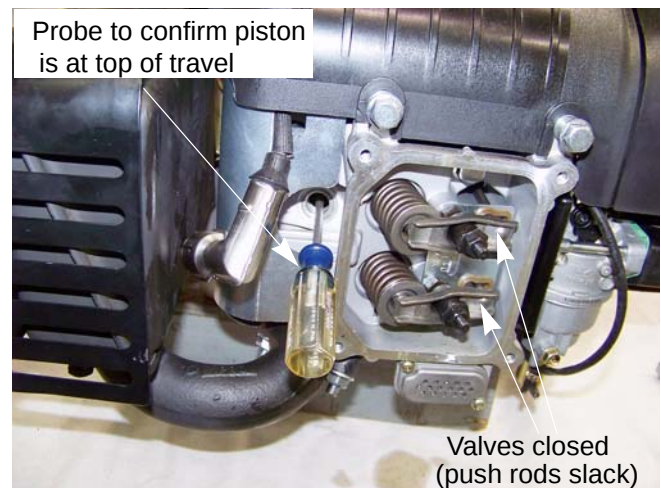

Figure 1.11
5. Confirm that the piston is at Top-Dead-Center on the compression stroke. See Figure 1.11.